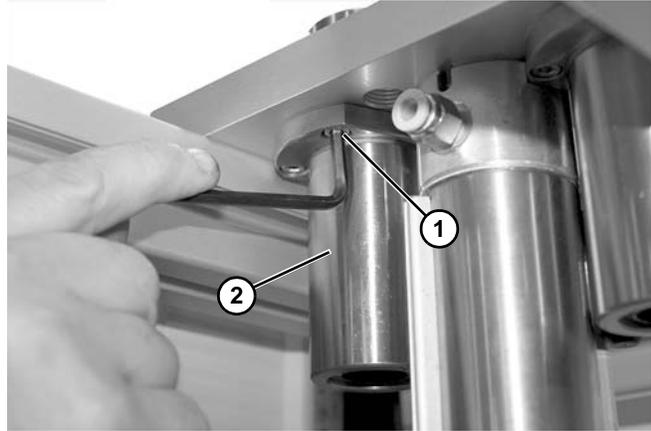

Figure 129
- Remove socket head screws (**Figure 129, item 1**) and bearing (**Figure 129, item 2**). Repeat for other bearing.